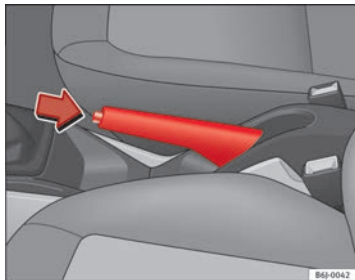

Fig. 110 Handbrake between the front seats
- Pull the handbrake lever up firmly ⇒ Fig. 110.
- Pull the lever up slightly and press the release knob in the direction of the arrow ⇒ Fig. 110 and guide the handbrake lever down fully ⇒ .